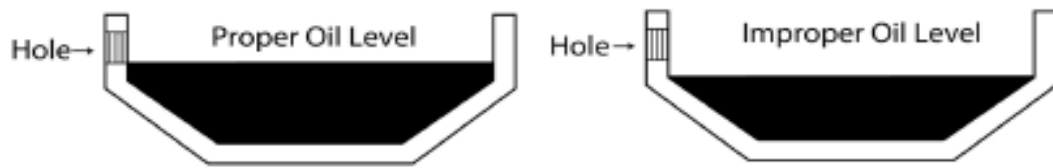

Figure 3: Proper transmission fluid level is when oil level is at the height of the fill hole.
20. Once work is complete, take vehicle for a 10 mile test drive to bring transmission to operating temperature and circulate fluids. After the test drive is complete, return to the service area. Check the transmission oil level and add more oil if required. Proper fill level is when oil is at the same height as the fill plug as per Figure 3. Inspect all transmission cooler lines and components for any leaks.